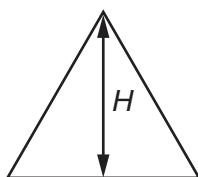

Fig. 3.2
- (a) Measure and record in millimetres to the nearest millimetre, the height  $H$  of **your** triangular illuminated object. Fig. 3.2 shows where you should measure  $H$ .